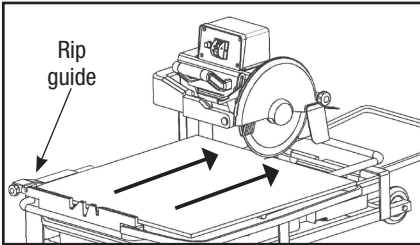

FIGURE 18
STEP 4: Make a straight cut by pushing the cutting table toward the cutting head (FIGURE 18).